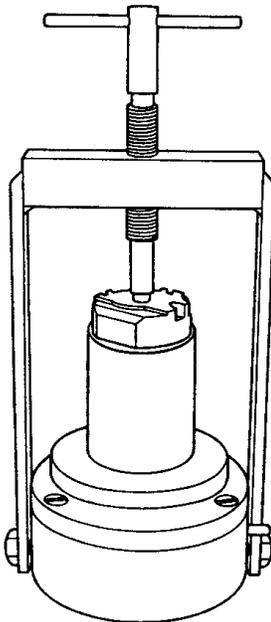

Figure 6.9
- A. Place the rotor on T-152 spacer. (See Figure 6.9.)